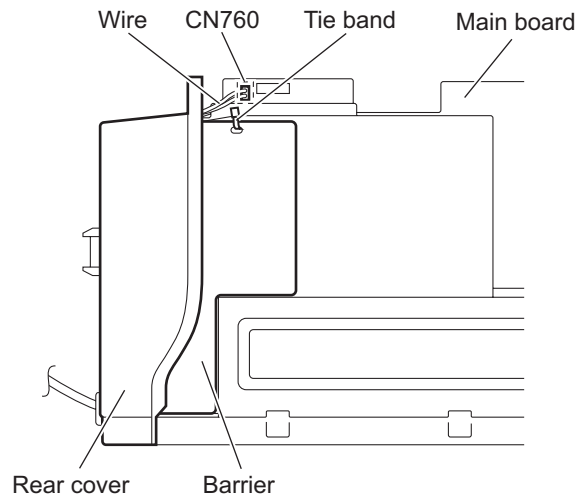

Fig.11
3.1.4 Removing the rear cover (See Figs.11 and 12)
- (1) From the left side of the main body, cut off the tie band attaching the barrier. (See Fig.11)
- (2) Disconnect the wire from the connector CN760 on the main board. (See Fig.11)